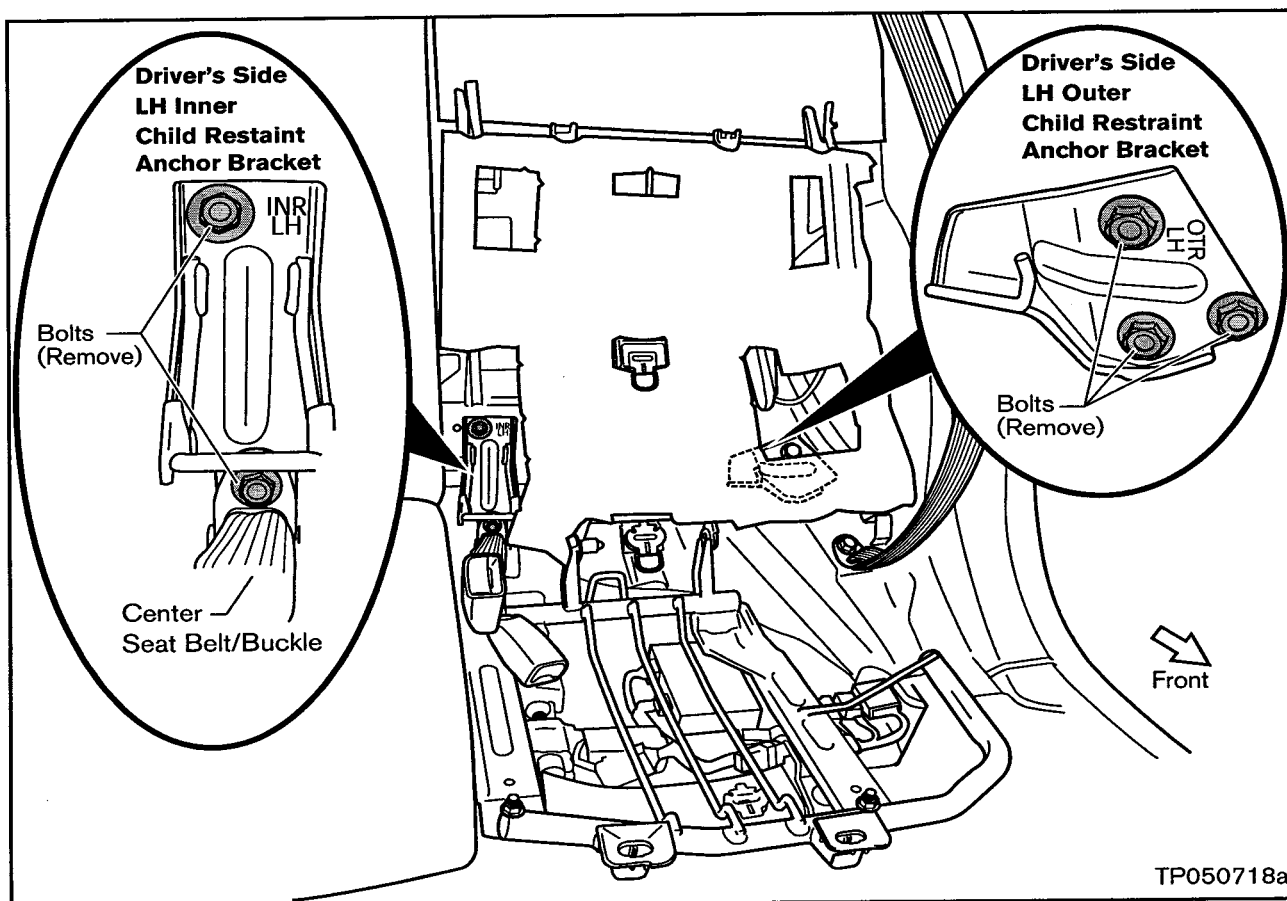

Figure 9
- 3. Remove three Bolts and remove the driver's side LH Outer Child Restraint Anchor Bracket (see Figure 9).
- 4. Remove two Bolts and remove the driver's side LH Inner Child Restraint Anchor Bracket (see Figure 9).